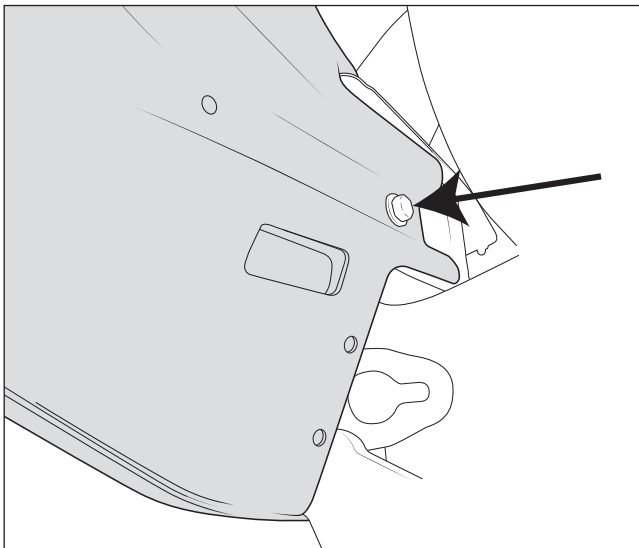
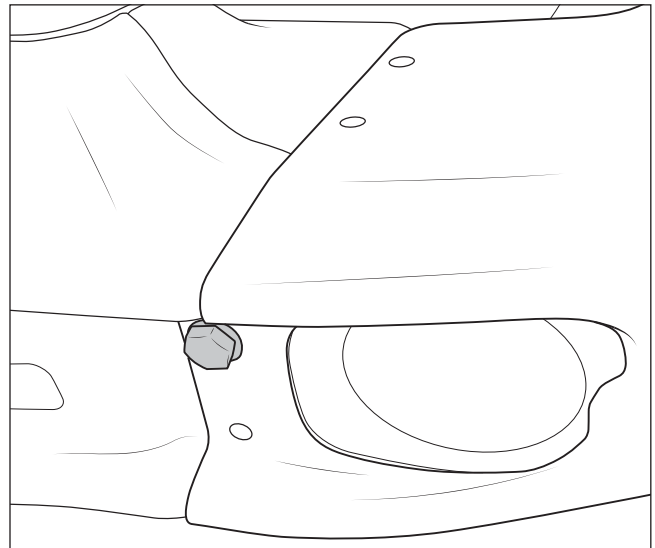
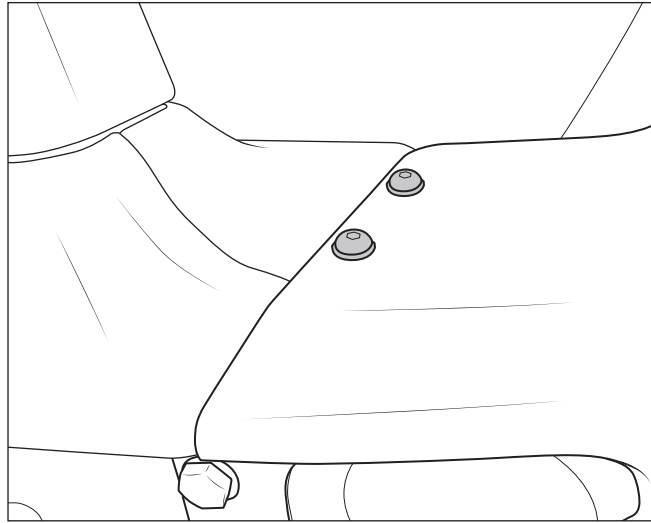

Figure 26
Figure 27
Figure 28
2. Loosely bolt in place beginning with the weld nut locations; rear inner hole with M10x30mm bolt and washer from corner kit (fig. 26), then front upper hole with silver M12x35mm hex bolts and washers (fig. 27), then top two holes with black M8x25mm button head bolts and washers (fig. 28).